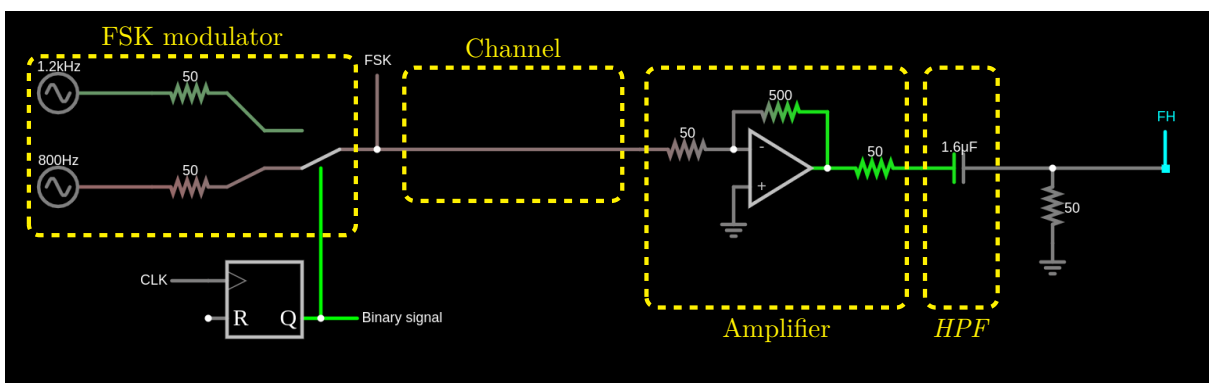

Figure 2: FSK with a high pass filter to discriminate frequencies.
3. Repeat the previous item for the high pass filter in the circuit of Figure 2.
In order to avoid interference and, most importantly, noise, it was decided to add a bandpass filter between the *Channel* block and the *Amplifier* block in the circuit shown in Figure 2 or in Figure 2.